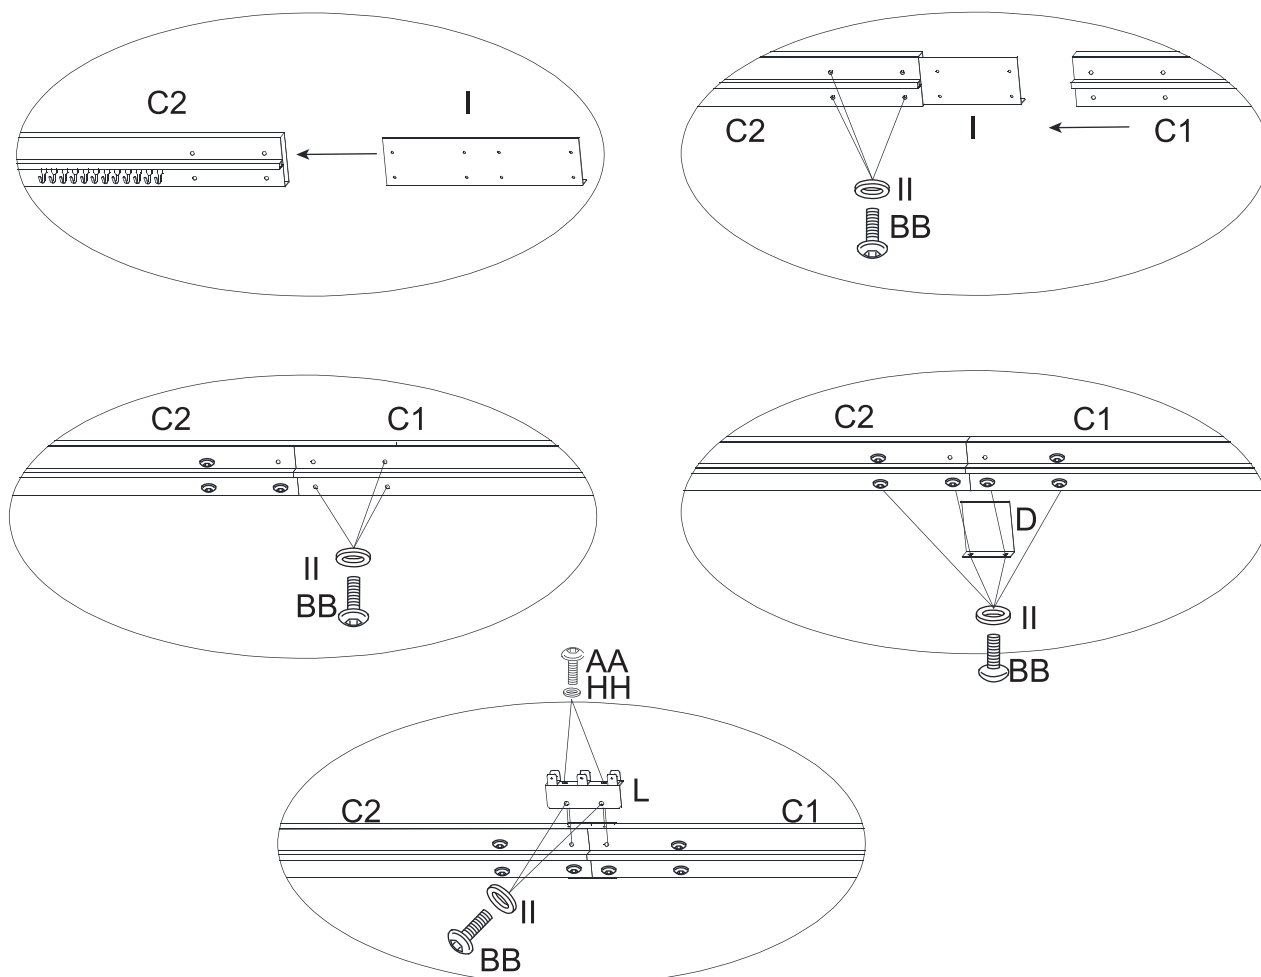

Figure 2.2
2.2. Connect the Left Lintel (C1) with the Right Lintel (C2) through the Lintel Connector -Large (I) by bolt (BB) and washer (II), then connect the Top Beam Guard (L) to the joint of the Lintels (C1/C2) by bolt (AA/BB) and washer (HH/II), put the Lintel Cover - Center (D) onto the joint of the two lintels with bolt (BB) and washer (II), pay attention to install the screws based on the orders shown in the illustration. Figure 2.2.